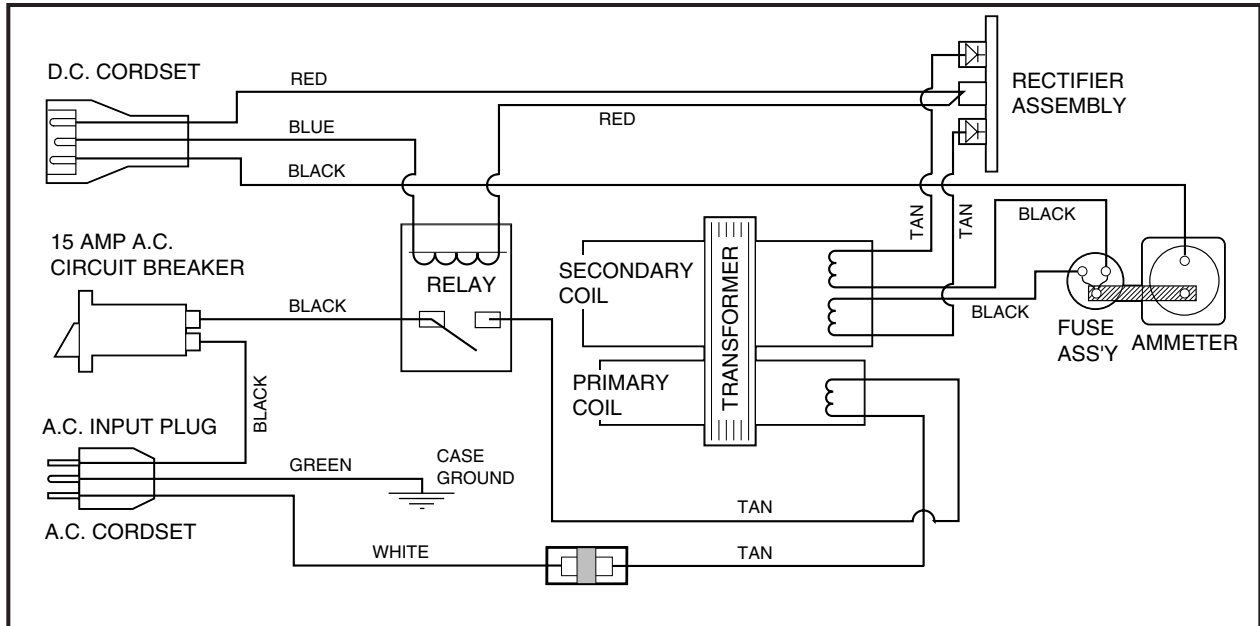

FIGURE 19-4
3. If the charger does not operate as in steps 1 or 2 above, refer to the wiring diagram (**Figure 19-4**), and check to be sure the charger is wired correctly. If the charger operates properly, then it is ready for use.
- STUDY AND BECOME FAMILIAR WITH THE WIRING AND TERMINOLOGY OF THE CHARGER BEFORE ATTEMPTING ANY REPAIRS (FIGURES 19-4 AND 19-5).